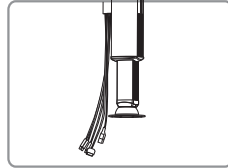
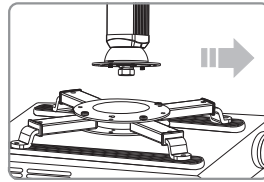
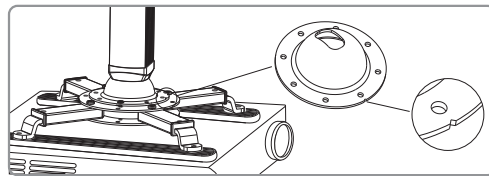

Figure 9
Figure 10
Figure 11
2. Open the back ornament board ③ b, and loosen the screws of subsidiary arm④ . Please adjust the subsidiary arm④ to your desired position (this function is only for B200、B300), and then fasten the screws again. Please hide the power line into the gap and close the back ornament board ③ b. Figure 9 and Figure10.
1. According to figure 10 and figure 11, please adjust the groove of half-cycle junction to be consistent with the direction of the projector. The positioning bar of GPC half-cycle junction must be align to the Q groove of GPC projector fixation, and then circumrotate for fastening. Finally, connect GPC half-cycle junction⑤ and GPC projector fixation using with two M4x5 pressing screws.